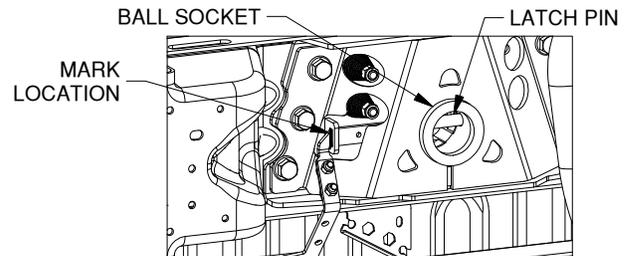

Figure G1: View of center section looking up under the bed.
6. **Check latch pin engagement.** When installed properly, the latch pin mechanism should pass through both sides of the ball socket. With the ball removed, push handle toward the rear of the truck until the handle retracts and the latch pin engages. Visually inspect the ball socket and check to be sure the latch pin has passed completely through the socket. Make a mark on the latching mechanism where indicated in Figure G1 to show where the latching mechanism should be when the pin is correctly positioned in the ball socket. Retract the pin, replace the ball, and re-engage the pin. Check the marked location on the latching mechanism. If the mark is in the same location as when the mark was made, then the latch pin has gone completely through the ball socket.